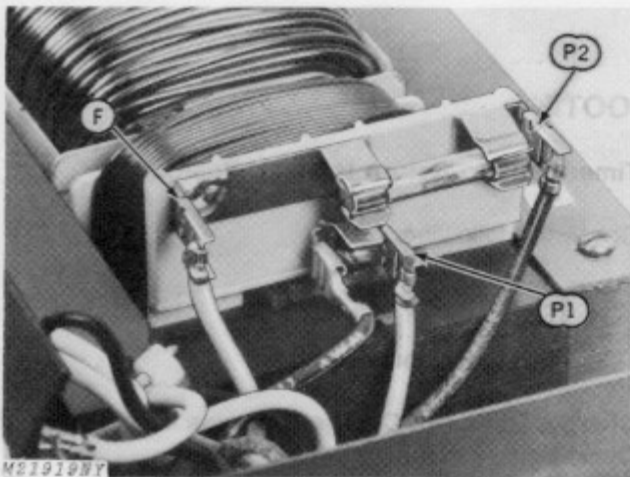

Fig. 9-Checking AC Power Supply and Fuse
Charging Circuit. . . . .	Page 20-5-9, Fig. 9
Short condenser using screwdriver with an insulated handle, Fig. 9.
5. P1 and P2, Fig. 9 should read approximately 120 volts AC.